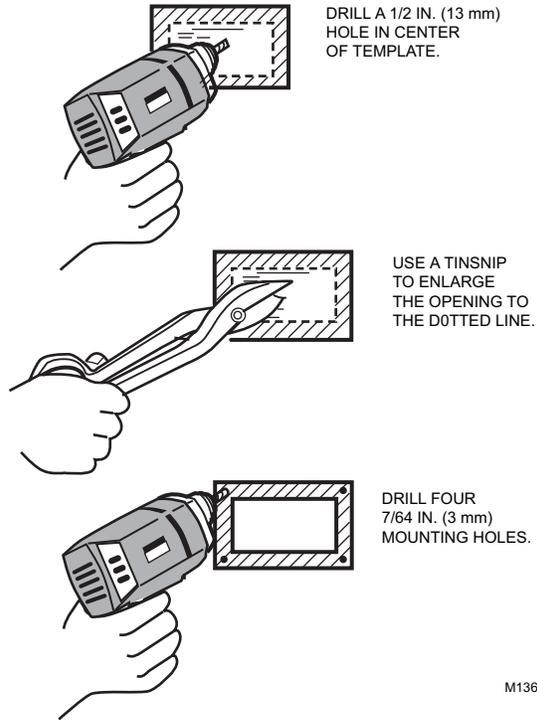

Fig. 37. Cutting Humidistat opening.
3. Refer to Fig. 37, and use the following steps to cut the Humidistat mounting hole.